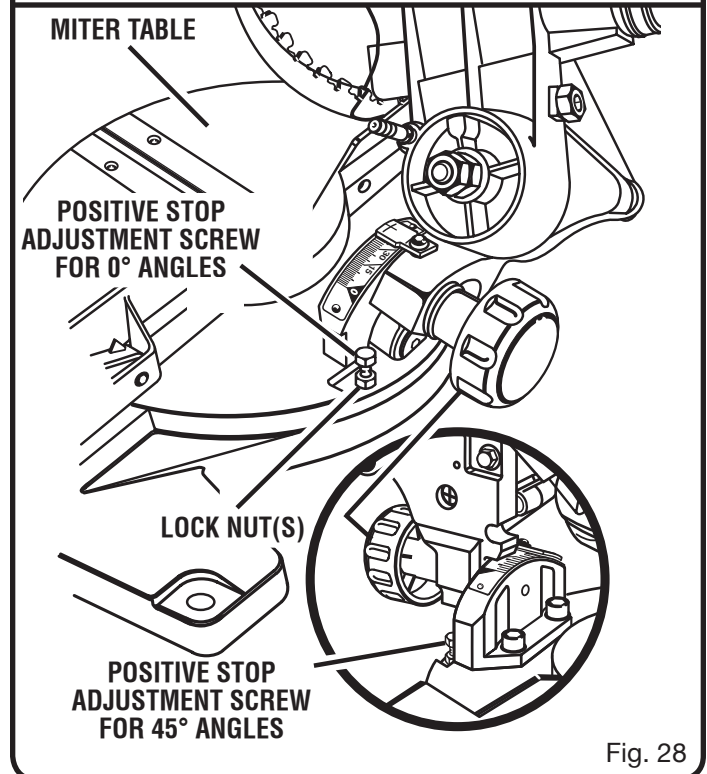

Fig. 28
- Adjust positive stop adjustment screw to bring saw blade into alignment with the square. See Figure 28.